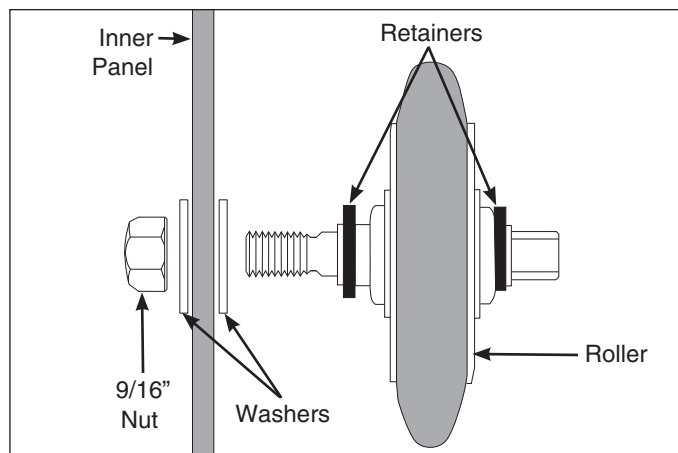

Figure 4-31.
2. Using a 9/16" socket or wrench, remove the nut from the roller shaft securing it to the inner panel. A 3/8" wrench can be used on the opposite end of the shaft to stop the shaft from turning while loosening and tightening the nut. (See Figure 4-31)